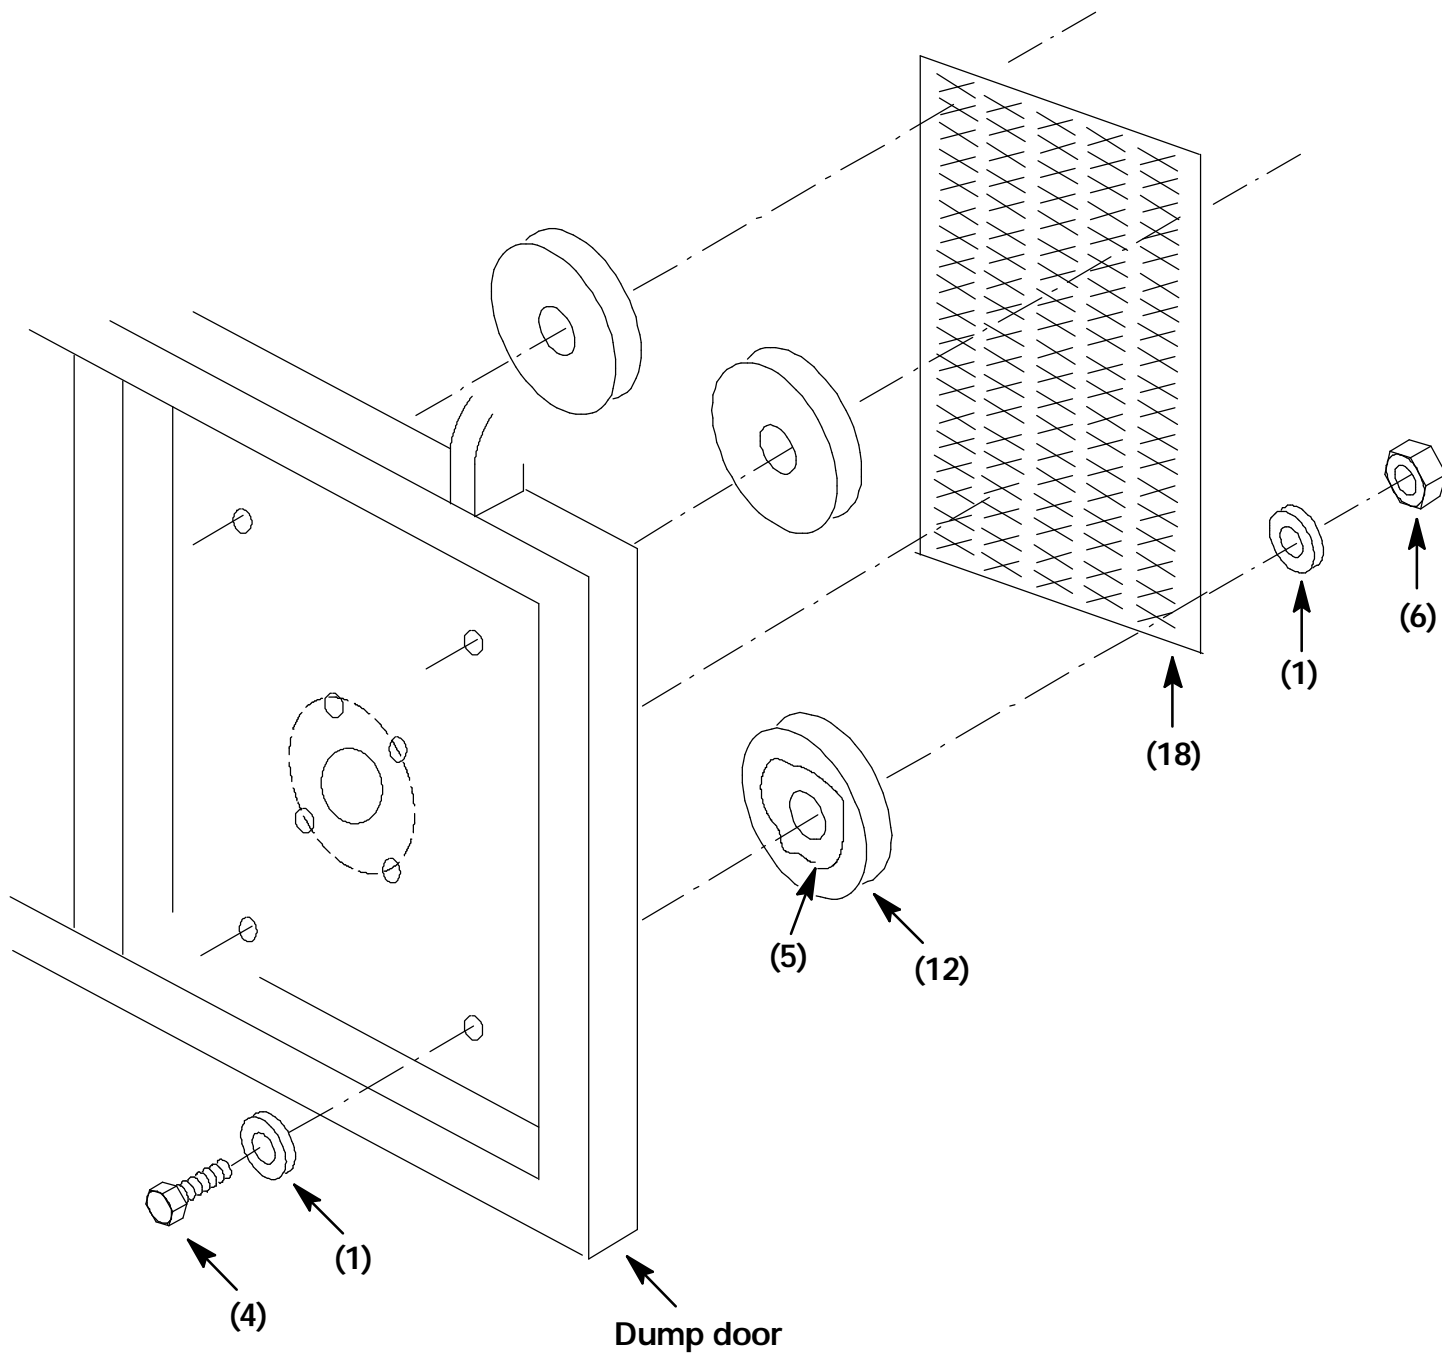

FIG. 2 - Dump Door Strainer And Bumper Assembly
4. Apply RTV (5) onto the flat side of one of the neoprene bumpers (12). Position the the RTV side of the bumper (12) over one of the .281 in. holes on the inside of the hopper door. Insert one hex screw (4) and washer (1) from the outside to hold the bumper. Repeat with the other three bumpers (12). *(Refer to FIG. 2)*
5. Position the strainer (18) over the four bumpers (12) and secure with four washers (1) and nyloc nuts (6). Tighten by hand until the bumpers just start to compress. *(Refer to FIG. 2)*